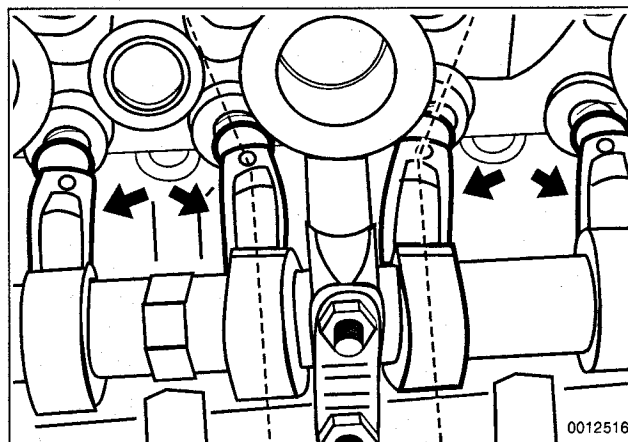

Fig. 4. Correct installation position of rocker arms (arrows) on M44 engine.
- Be sure corresponding camshaft lobe is pointing up before installing rocker arms. Note that each rocker arm angles away from corresponding spark plug hole. See Fig. 4.